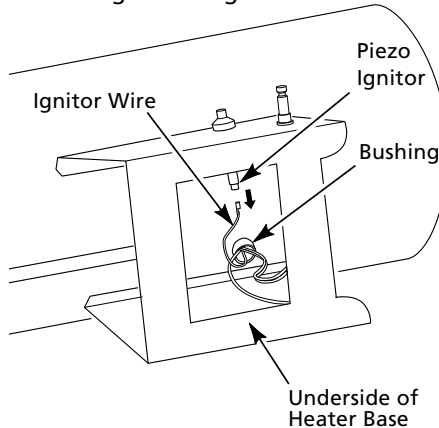

Figure 14 - Removing Ignitor Wire from Piezo Ignitor
- Remove black ignitor wire from piezo ignitor. Access ignitor wire through underside of heater base (See Figure 14). Push wire up through bushing in heater shell.